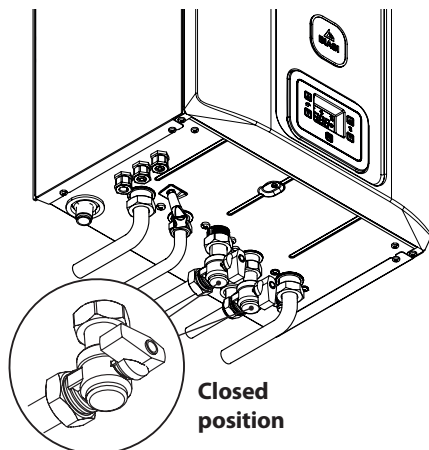

Figure 2.14
- Close the boiler cocks Figure 2.14;